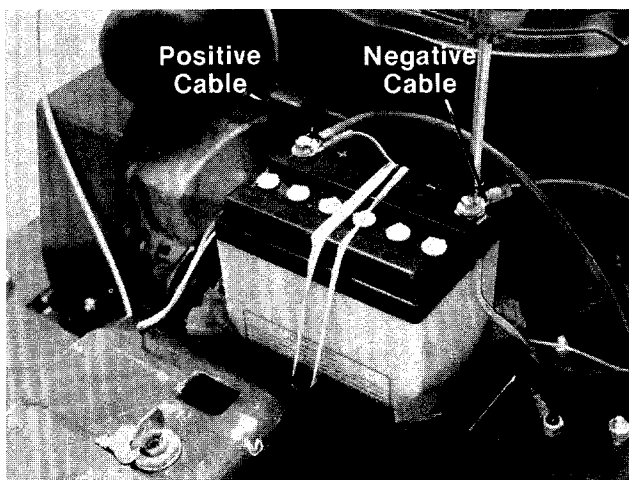

FIGURE 16.
12. Slide the square nut (provided with battery hardware) into the positive (+) terminal. Place the positive (heavy red wire) cable on the positive terminal. Secure with screw and lock washer provided. See figure 16.
13. Slide the square nut (provided with battery hardware) into the negative (-) terminal. Place the negative (heavy red wire) cable on the negative terminal. Secure with screw and lock washer provided. See figure 16.